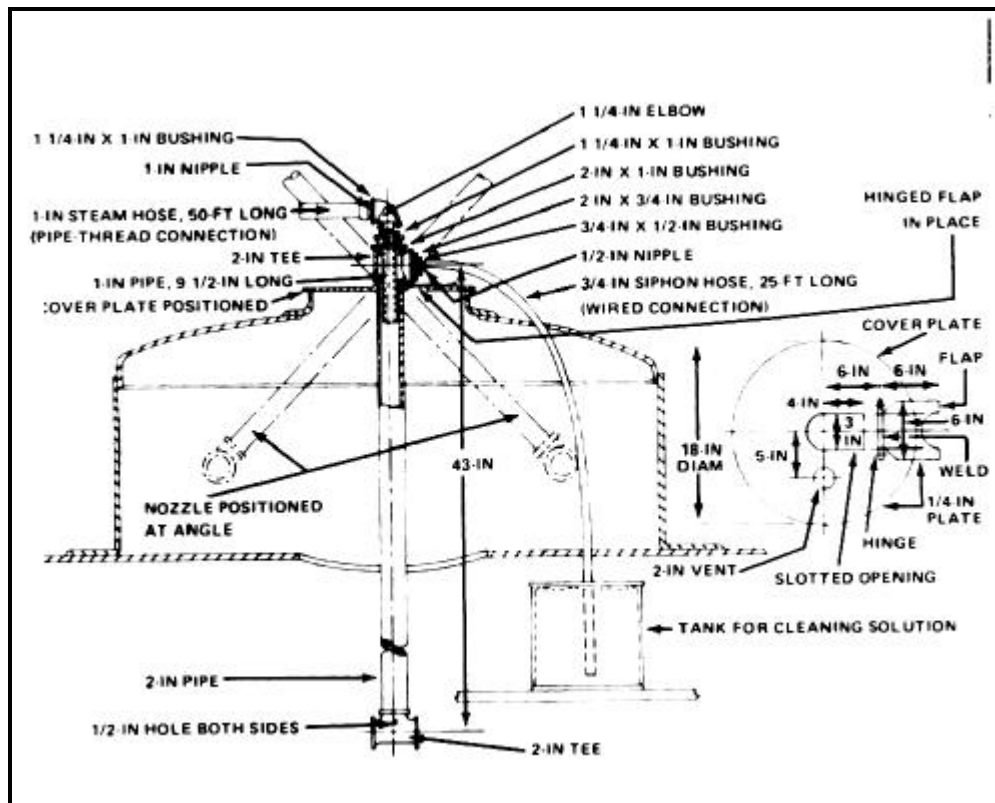

Figure 12-20. Steam spray nozzle and cover plate
- Obtain or make a steam spray nozzle and cover plate as shown in Figure 12-20, page 12-28.